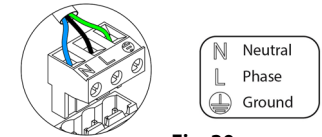

Fig. 30
It is connected to the module through a 3-pin terminal ①. Attach the wires with the terminal screws following the color code (Fig. 30).